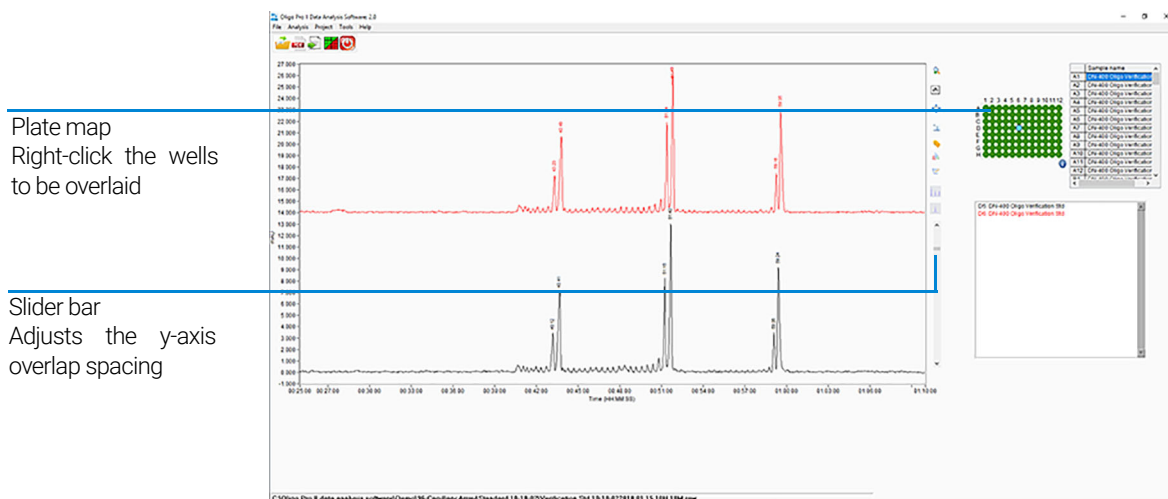

Figure 15 Overlay of multiple samples in the main screen
- 2 Use the slider bar of the Electropherogram trace to adjust overlap spacing (**Figure 15**).